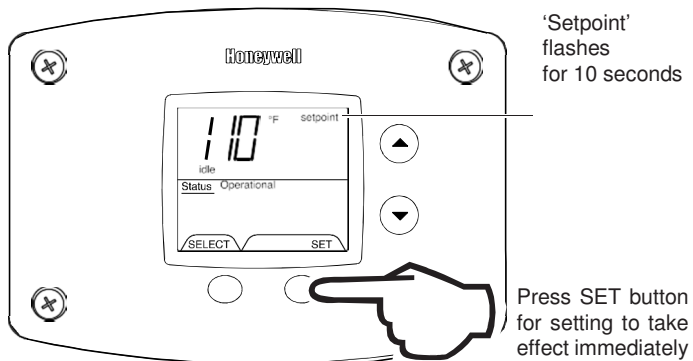

Figure 18
3. Press 'SET' button for new setting to take effect immediately. 'Setpoint' will stop flashing. If the 'SET' button is not pressed, the new temperature setting will take effect in approximately 10 seconds (Fig. 18).